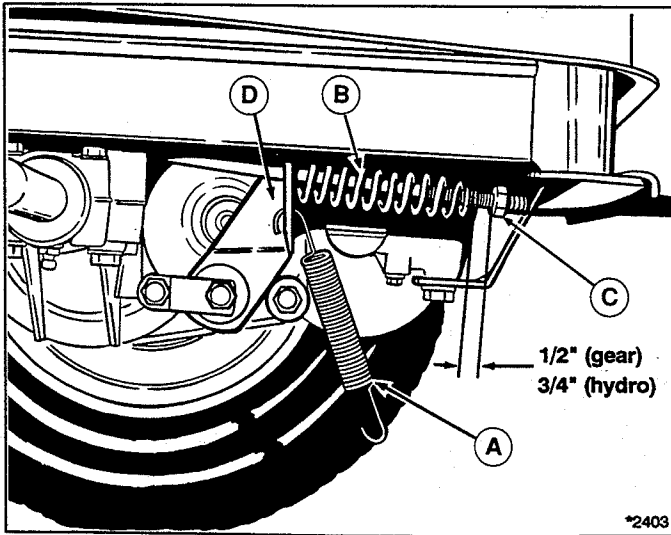

Figure 27. Clutch/Brake Rod (Gear Model shown)
2. Remove end of tension spring (A, figure 27) from bracket.
3. Push compression spring (B) against brake cam. On gear models, there should be 1/2" clearance between the compression spring (B) and nut (C) as shown in figure 27. On hydro models, there should be 3/4" clearance between the compression spring (B) and nut (C).
4. To adjust, turn adjustment nut (C) as necessary for correct spring gap.